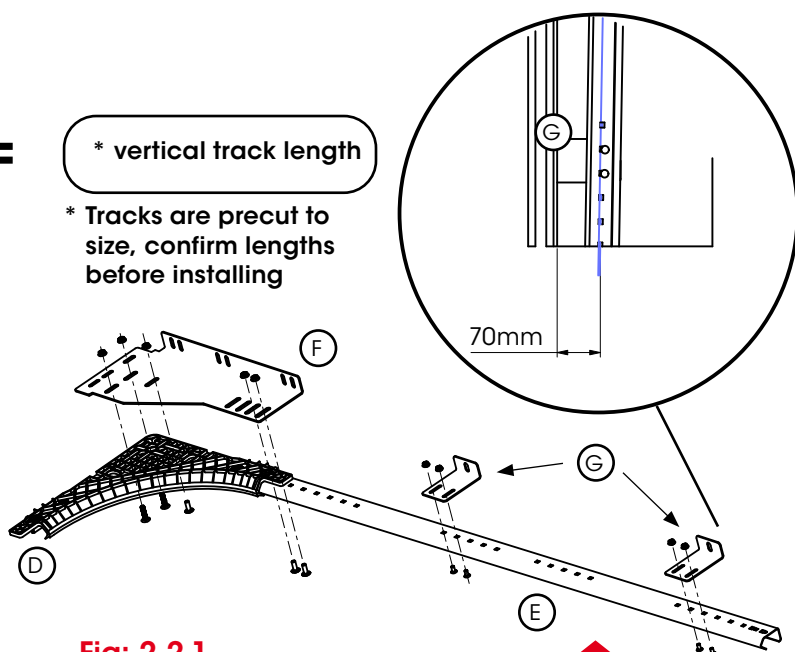

Fig: 2.2.1
- a) Affix the polypropylene curve (D) and flag bracket (F) to the vertical straight track (E) using 5/16 flat head bolts and wiz nuts.
The small angle jamb brackets (G) and the flag bracket (F), provide adjustable slots to move the track out from the frame. Use the smaller of the small angle jamb brackets at the bottom of the track and set to 70mm as per Fig 2.2.1. Set the vertical track flag bracket (F) connection to 95mm for a 4 panel door.
- b) Align the small angle jamb brackets (G) with the predrilled holes in the frame and affix to the vertical track using 1/4 flat head bolts and wiz nuts.